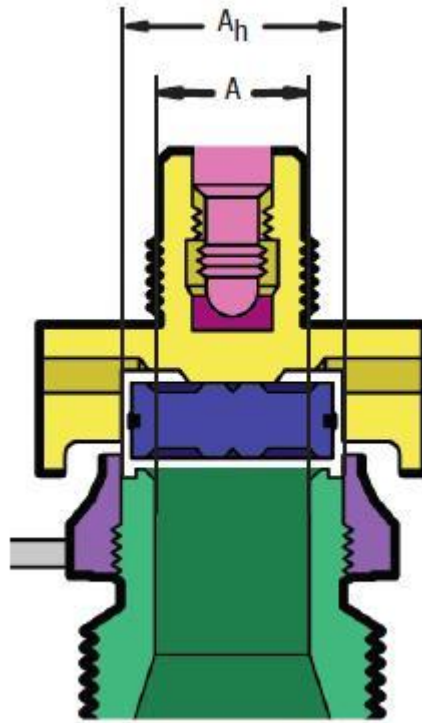

Figure 16 - Relationship of Nozzle Area to Control Chamber (Huddling Chamber)
Under normal system operation the valve remains in the closed position because the spring force (F_s) is greater than the system pressure acting on the internal nozzle seating area (PA). If system pressure increases to a point when these forces are equal, then the set pressure is reached. The disc lifts and fluid flows through the valve. When pressure in the system returns to a safe level, the valve closes. Just prior to reaching set point, the pressure relief valve leaks system fluid into the huddling chamber. The fluid now acts on a larger area of the disc inside the huddling chamber (PA_h), causing the valve to experience an instantaneous increase in the opening force. Refer to the figure 16 above to see relationship between Nozzle Area (A) and the Huddling Chamber Area (A_h). System pressure acting on the larger area will suddenly open the safety relief valve at a rapid rate. Although the opening is rapid and dramatic, the valve does not open fully at set point. The system pressure must increase above set point to open the valve to its full lift and capacity position. Maximum